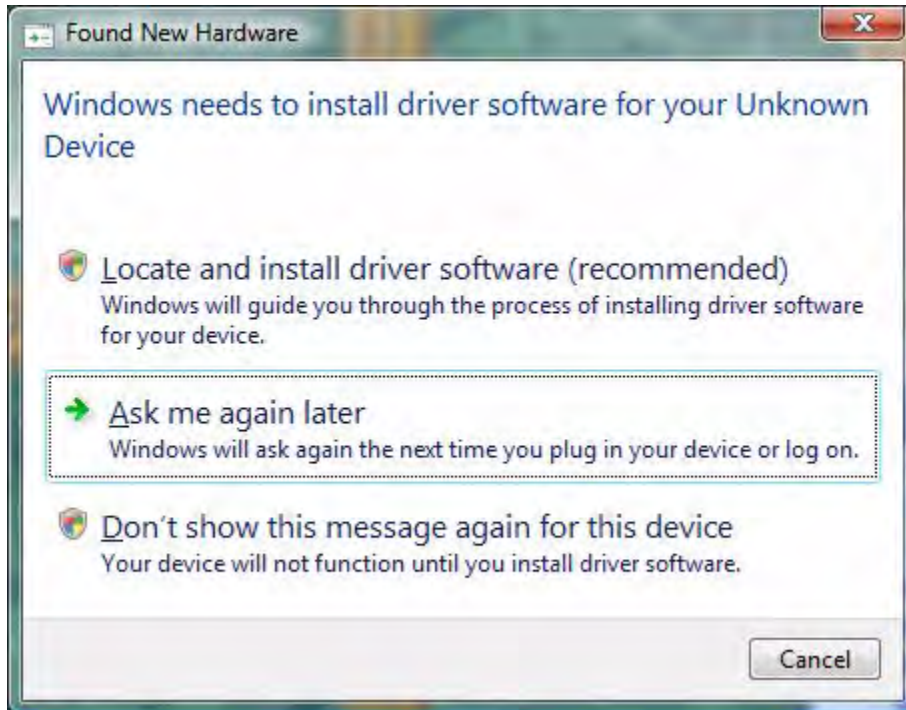

Figure 16. Found New Hardware Dialog, Windows Vista
2. After the PC detects the new hardware, it will display the Found New Hardware Wizard dialog box, shown in Figure 16. Click **Locate and install driver software (recommended)**.